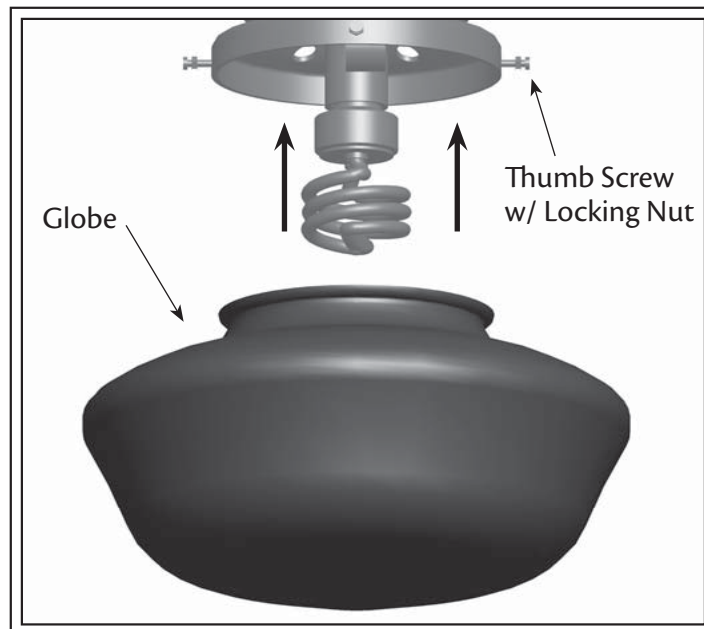

Fig. 17
5. Tighten the locking nut to keep thumb screw from loosening (see Fig. 17).